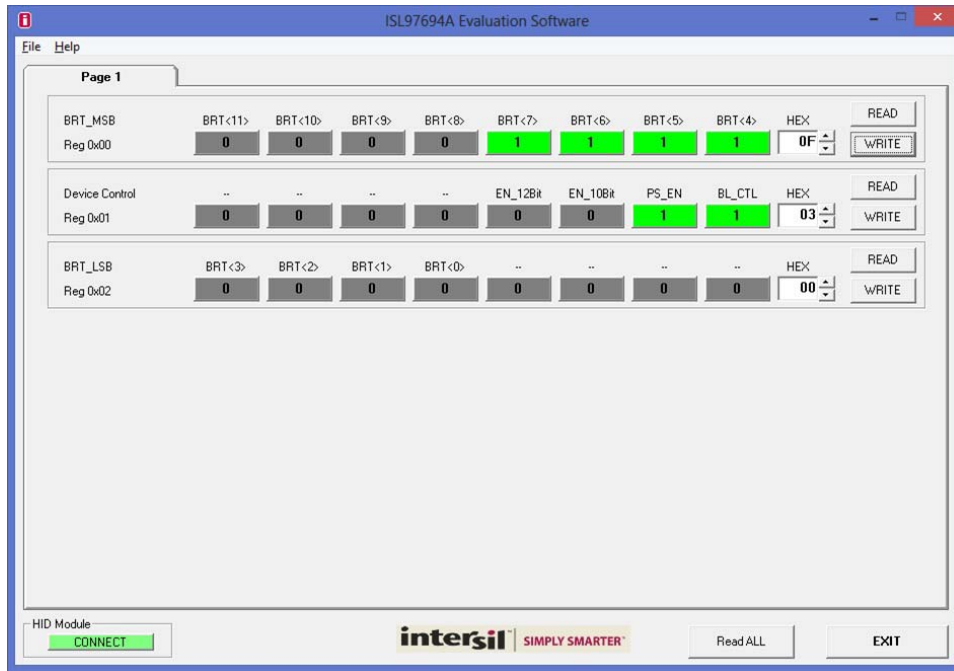

FIGURE 1. ISL97694AIRT-EVZ INTERFACE SOFTWARE
If using the I²C interface, please follow these instructions and see Figures 1, 2 and 7:
3. Once the application window (see Figure 1) appears, click the green "Connect" button then click the "Read All" button beside it. The control fields should be updated with values read from the ISL97694A unit. If an error occurs, confirm the setup and click "Read All" again.